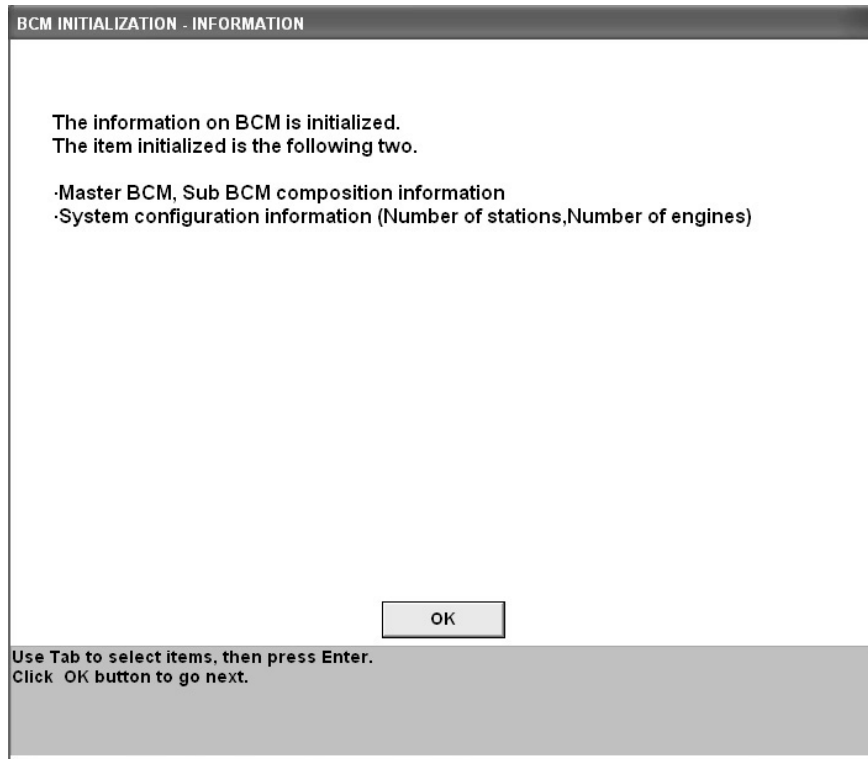

Fig.115
1. Clicking the “BCM INITIALIZATION” button from the Main Menu dialog box (Fig.85) displays the menu window. (Fig.115)